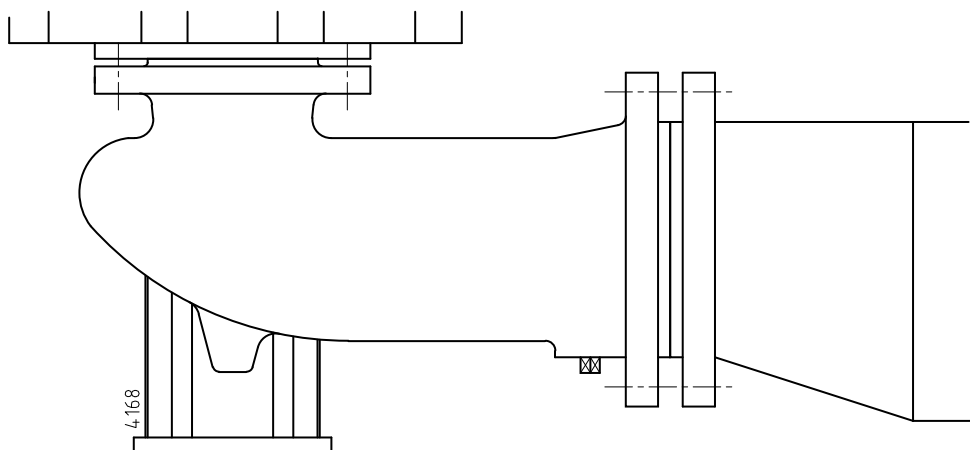

Figure 2: Eccentric reducer to suction flange.
- If the inside diameter of the suction pipe is larger than the suction connection of the pump, an eccentric reducer should be applied to prevent air pockets and whirls. See figure 2